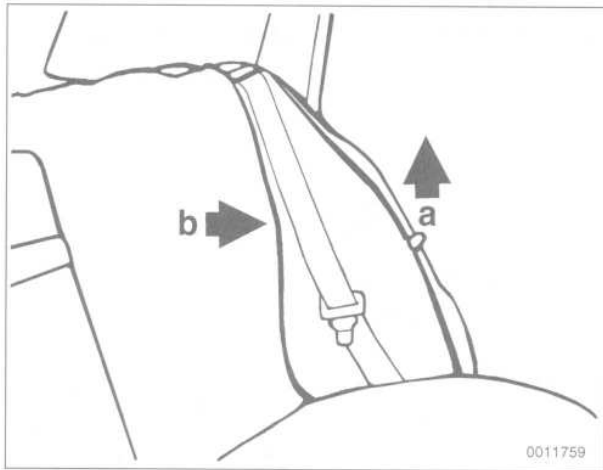

Fig. 19. Remove backrest side section by lifting up (a) and out (b). Left rear seat side section shown.
3. Tilt backrest forward and use flat screwdriver to unlock retainers. See Fig. 19. Lift out backrest.
1. Lift backrest side section out and up. See Fig. 19.